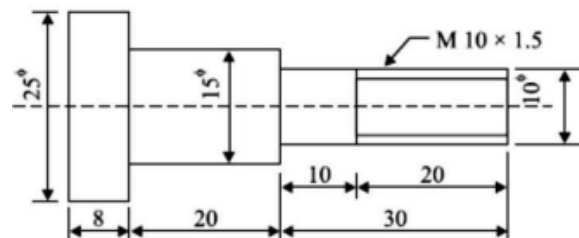

Figure 4
- b Calculate the machining time required to produce one piece of the component shown in Figure 4. given below starting from f 25 mm bar. The following data is available. L3 5 16